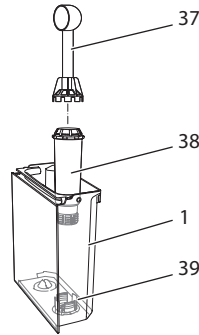

Fig. 18: Screwing/Unscrewing the water filter
- Remove the water filter when the appliance requests you to do so (see Fig. 18).